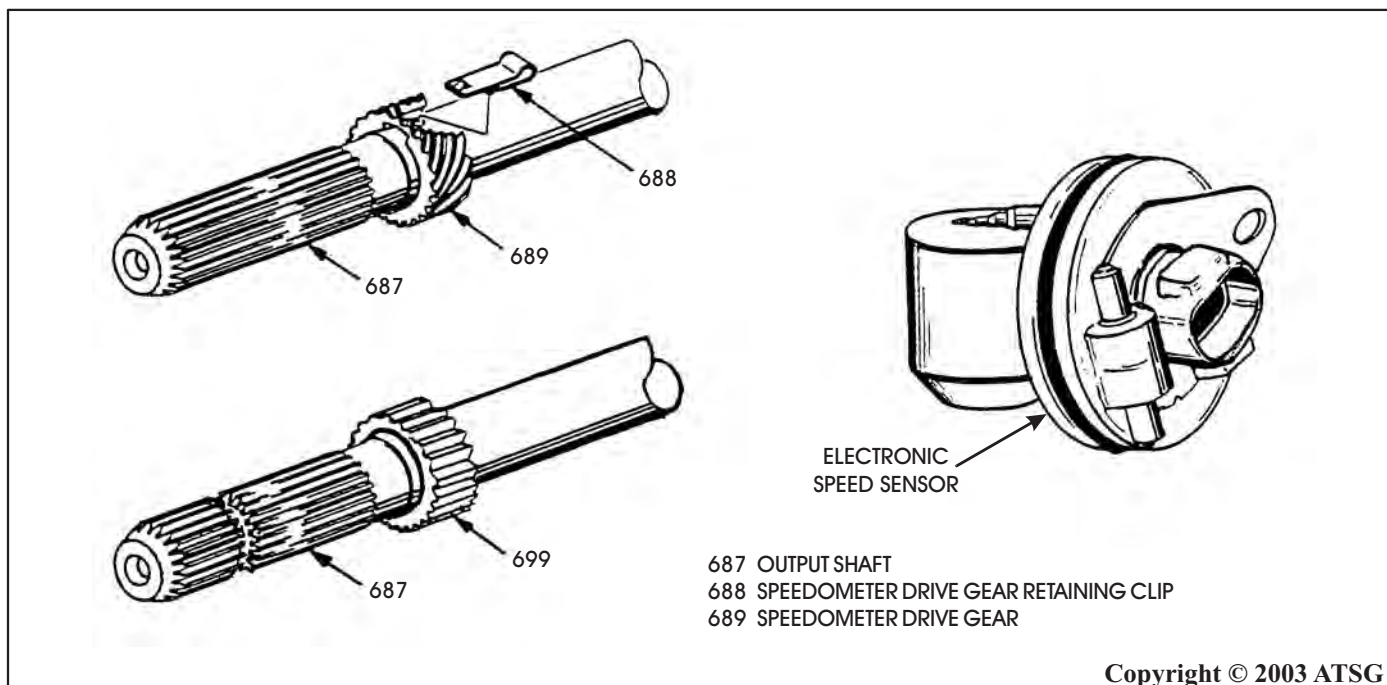

Figure 20
CHANGE: Beginning on July 17, 1986 for *some* 1987 models, Hydra-Matic introduced an electronic speed sensor, which is used by the ECM to provide anti-skid braking. The speed sensor and speed sensor rotor replace the speedometer driven gear adaptor and the speedometer drive gear, as shown in Figure 20. Used in 1987 model "C" Trucks with 4.3L, 5.0L, 5.7L, (Gas) and 6.2L Diesel engines.
- (1) **SPEED SENSOR** - The added Speed Sensor replaces the speedometer driven gear adaptor and the speedometer drive gear, as shown in Figure 20.
- (2) **OUTPUT SHAFT** - Has an added groove to remove and install the added speed sensor rotor, using a special puller (See Figure 20).